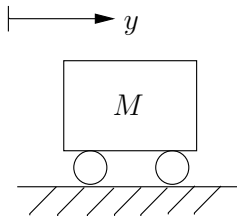

Figure 2.19: A cart with no forces.
12. *Passive circuit.* The customary state variables are inductor currents and capacitor voltages. For a mechanical system the customary state variables are positions and velocities of all masses. The reason for this choice is illustrated as follows. Consider Figure 2.19, a cart with no external applied force. The differential equation model is $M\ddot{y} = 0$, or equivalently, $\ddot{y} = 0$.